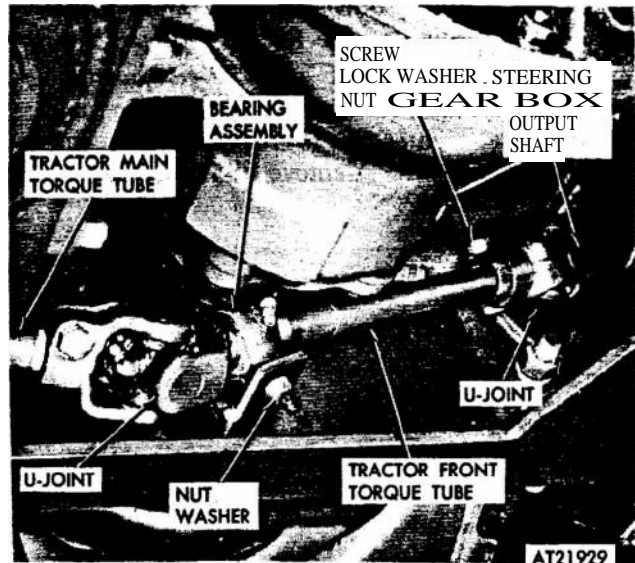

Figure 2-276. Tractor front torque tube, removal and installation.
(1) Remove nut, lock washer, and screw securing universal joint to steering gear box shaft (fig 2-276).
(2) Remove nut, lock washer, and screw securing universal yoke to main tractor torque tube.
(3) Remove nut and lock washer securing bearing to mounting bracket. Disconnect bearing from bracket. Remove front torque tube assembly.